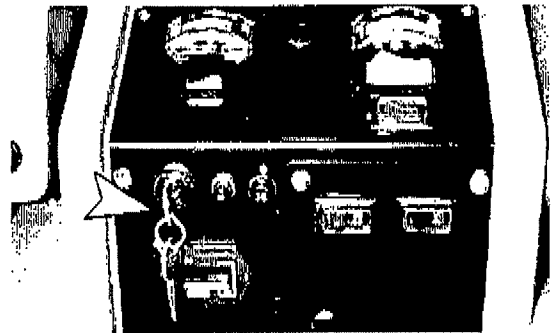

FIG. 11
3. Turn key switch on (Figure 11).